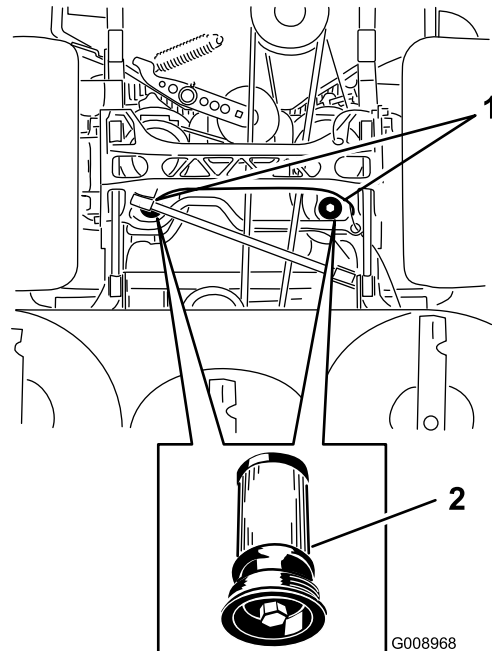

Figure 93
5. Place a drain pan under the filter, remove the old filter, and wipe the surface clean (Figure 93).
6. Apply a thin coat of hydraulic fluid to the rubber gasket on the replacement filter (Figure 93).